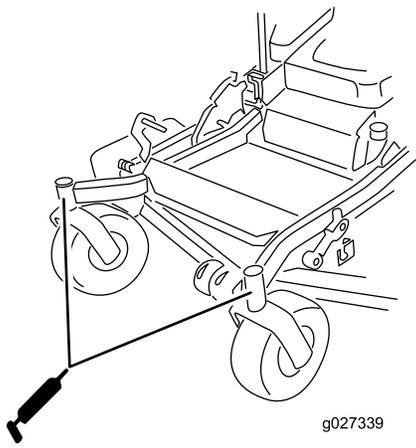

Figure 54
11. Install the hex plug and dust cap (Figure 54).
12. Grease the caster-wheel bearings (Figure 54).